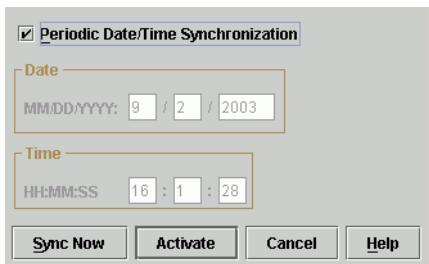

Figure 17 Configure Date and Time dialog box
1. At the Hardware View page for the selected switch, select **Configure > Date/Time**. The Configure Date and Time dialog box is displayed (Figure 17).